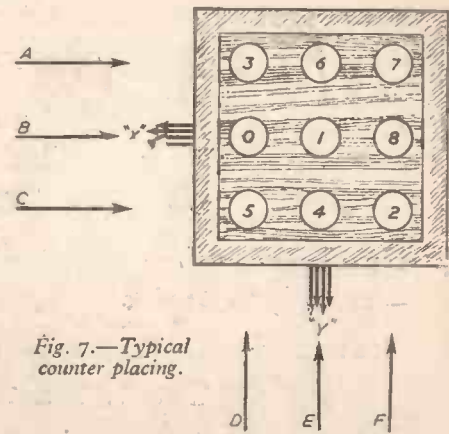

Fig. 7.—Typical counter placing.
An illustrative game between two players who have reached a moderate degree of skill and are not easily "caught" will help to make the method of working clear. Referring to Fig. 7, "X" has started by selecting a counter and placing it (1) on the centre of the board. "Y" places a 3 on the corner, waiting to see what "X" plans. "X" then puts the Zero as shown, and "Y" sees that "X" plans to build up line B with 0, 1 and 2. If this is done, then "X" will choose line B with his selector for the first three turns during which "Y" will take a counter, so that "Y" will be forced to take the Zero, 1 and 2, while "X" takes three higher numbers. "Y" therefore puts the 8 at the end of this row. "X" will now hesitate to select the middle row when it is "Y's" turn to take a counter